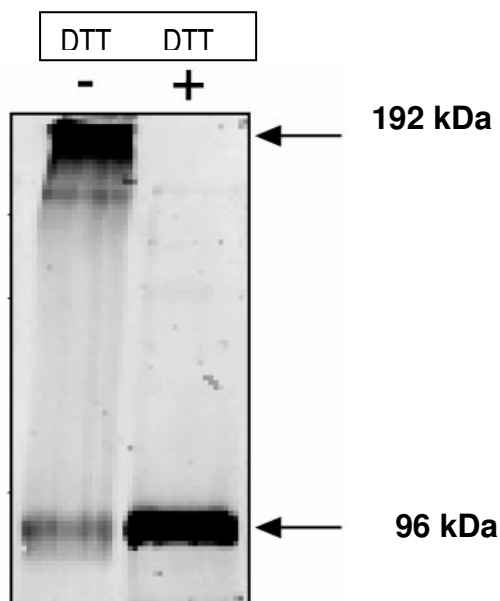

Figure 2: Native PAGE (non-denaturing electrophoresis in polyacrylamide gels) of recombinant glucose oxidase purified under non-denaturing conditions.
**QUESTION 5:** Another treatment consisted in the purification of the recombinant glucose oxidase under non-denaturing conditions and in presence of glutaraldehyde. The purified enzyme was analyzed by native PAGE (without SDS). Prior to loading, the samples were resuspended in loading buffer with (+) and without (-) DTT (a reducing agent). The obtained results are shown in figure 2 (4 points)
Taking in account the results obtained from figure 1 and figure 2 the most probable conformation of the recombinant glucose oxidase is: